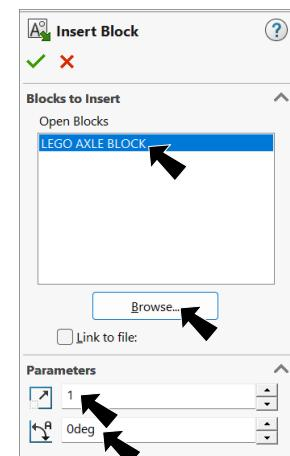
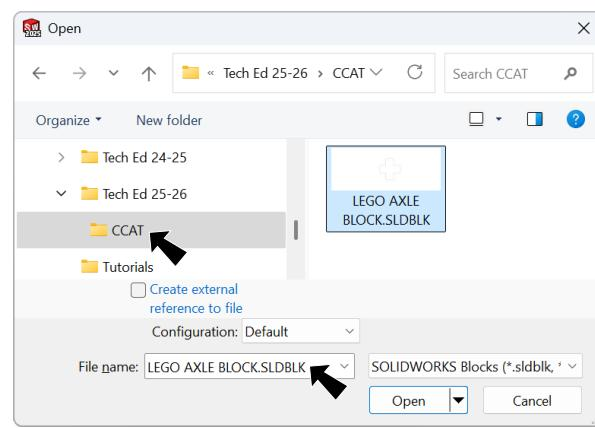

Fig. 24
Fig. 25
Step 4. In Insert Block Property Manager, click Browse, Fig. 24 in the Open dialog box, navigate to: Documents\Tech Ed 25-26\CCAT and open LEGO AXLE BLOCK file, Fig. 25 under Parameters